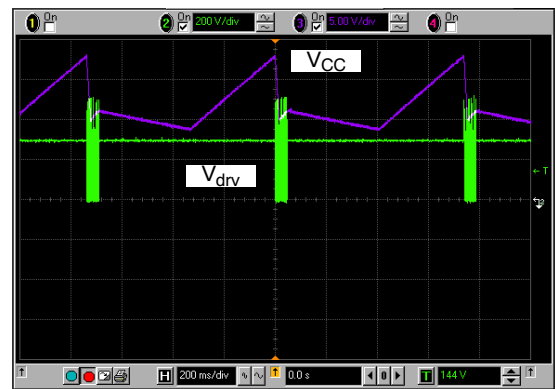

**Figure 18. Hiccup Occurs with the B Version Only, the A Version Being Latched**
2. B version: the circuit stops its output pulses and the auxiliary  $V_{CC}$  decreases via the controller own consumption ( $\approx 600 \mu\text{A}$ ). When it touches the  $V_{CC(min)}$  point, the circuit re-starts and attempts to crank the power supply. If it fails again, an hiccup mode takes place (Figure 18).